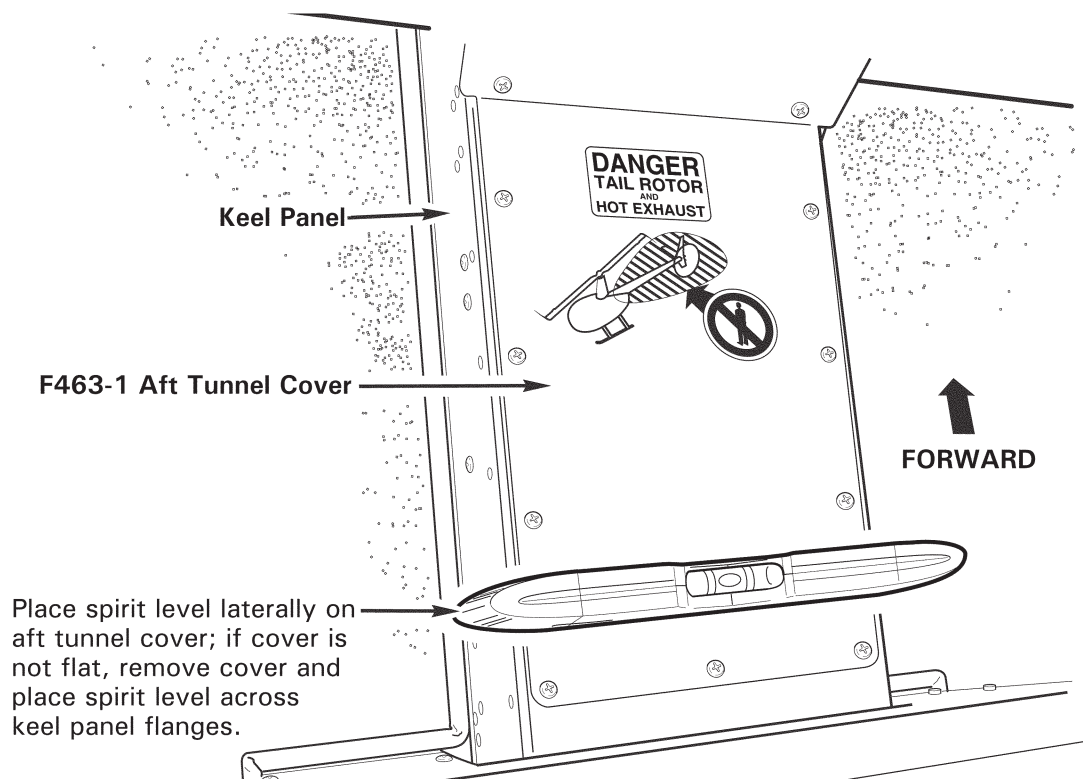

FIGURE 8-1 LEVELING FOR WEIGHT AND BALANCE
2. Refer to Figure 8-1. Place a spirit level laterally on F463-1 aft tunnel cover. Verify cover is flat; if cover is not flat, remove cover and place spirit level across keel panel flanges.